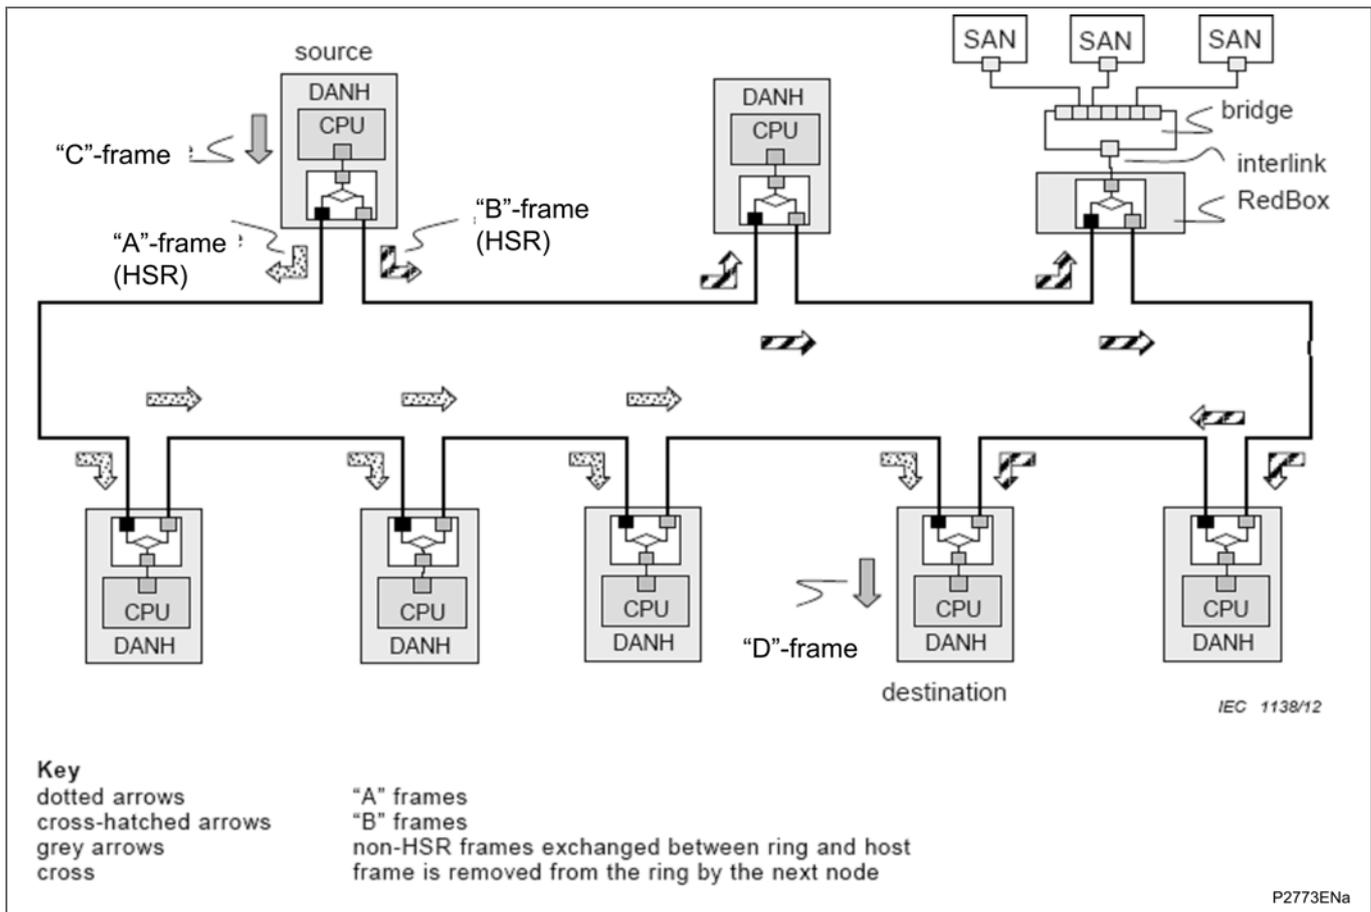

**Figure 4 - HSR example of ring configuration for multicast traffic**
- Figure 4 - HSR example of ring configuration for multicast traffic